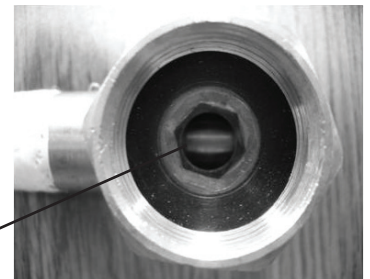

Figure 8
- Using a hex key, insert key into hex opening as seen in figure 8 and tighten threaded insert gently.